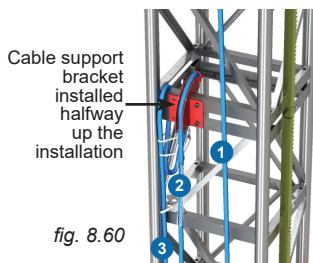
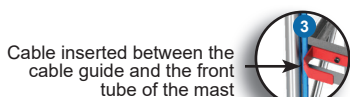
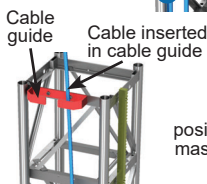
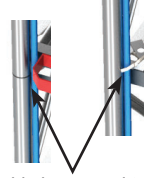

fig. 8.60
fig. 8.62
fig. 8.63
fig. 8.65
- 14- Make sure that cable segments 1 and 2 (fig. 8.60) are properly aligned for passing through the cable guides that will be installed on the whole length of the mast. Make sure also that segment 3 is properly inserted between the cable guide and the front tube of the mast (fig. 8.62).
- 18- Secure the halfway cable support bracket over the junction between two mast sections located directly above the halfway mark (fig. 8.60). Secure the support in place with bolt assemblies.
- 20- Run a portion of the cable going to the control panel ("2", fig. 8.60) through the support. Secure the cable in place with the U-bolt, making sure to allow some slack in the cable between the U-bolt and the open mesh grip.
- 21- Lower the unit toward base level. On the way down and at every other mast section, secure the segment of cable coming from the power source ("3", fig. 8.60) to the horizontal bar of the mast section. Make sure to secure the cable close to the tube located on the front of the mast (fig. 8.65, p. 101) so it can be properly inserted in the space between each cable guide and the tube located on the front of the mast.
- 22- Make sure that the cable segments going to the control panel ("1" and "2", fig. 8.60) is properly inserted in each cable guide (fig. 8.63).
- 28- Loop cable segments 1 and 2 (fig. 8.60, p. 100) around the pulley and let the cable trolley hang by gravity.